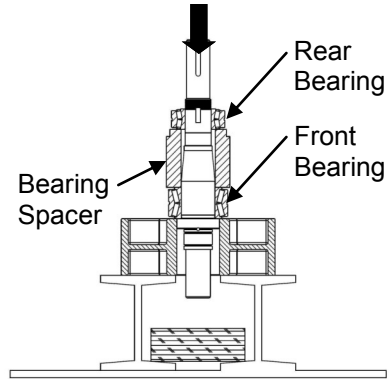

Figure 42: Removing Bearings and Sleeve From Shaft
6) Using a press and a V-block, remove the front and rear bearings along with the bearing spacer. To prevent damage to the shafts make sure that both ends are protected (Figure 42). Reference Table 5 for the required force (in tons) needed to press the bearings off the shafts.